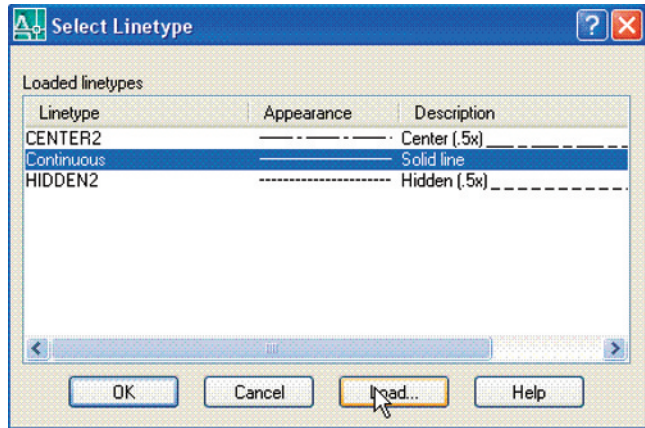

Fig. 4.19 The **Select Linetype** dialog
5. Click on the linetype **Continuous** against the layer name **Centre**. The **Select Linetype** dialog appears (Fig. 4.19). Click its **Load...** button and from the **Load or Reload Linetypes** dialog **double-click** **CENTER2**. The dialog disappears and the name appears in the **Select Linetype** dialog. Click the **OK** button and the linetype **CENTER2** appears against the layer **Centre**.